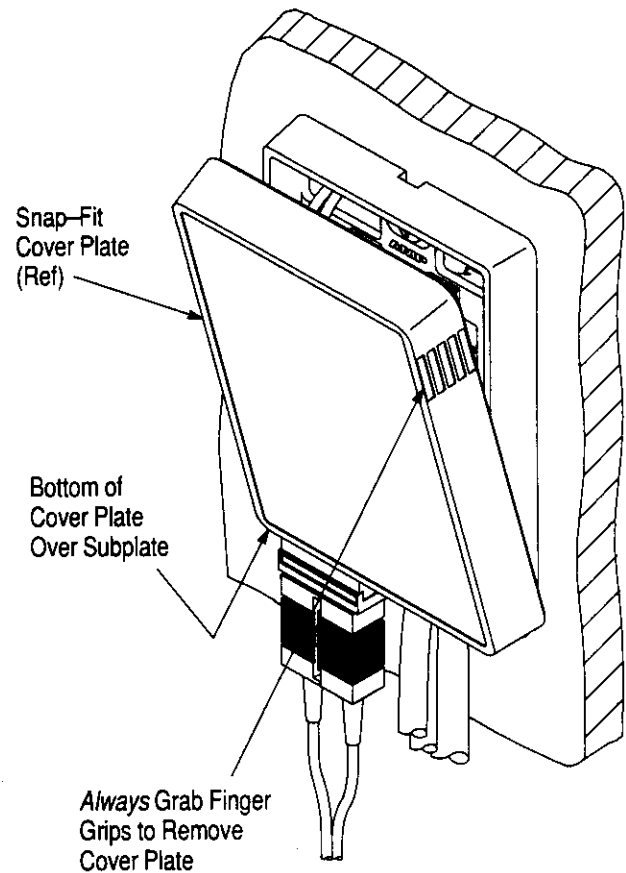

Figure 6
9. If using the snap-fit or combination cover plate, position the bottom of the cover plate over the subplate, then snap the top of the cover plate into place. Refer to Figure 6. If applicable, install the remaining mounting screw into the cover plate.
1. If applicable, remove the mounting screw that holds the cover plate to the subplate. To remove the snap-fit cover plate, grab the finger grips on the cover plate and pull back at an angle; then unlatch the bottom of the cover plate. Refer to Figure 6. To remove screw-mounted cover plate, remove the mounting screw that holds the cover plate to the subplate; then remove the cover plate.